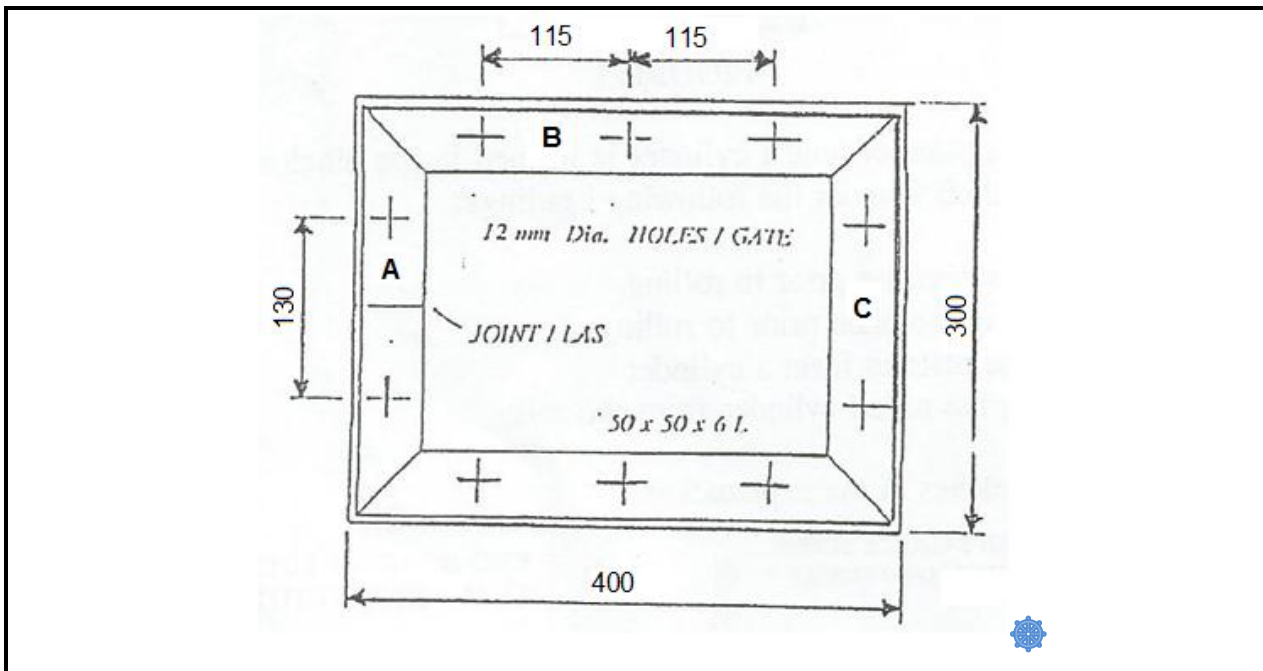

FIGURE 2
2.2 FIGURE 2 below, shows a top view of an angle iron frame.